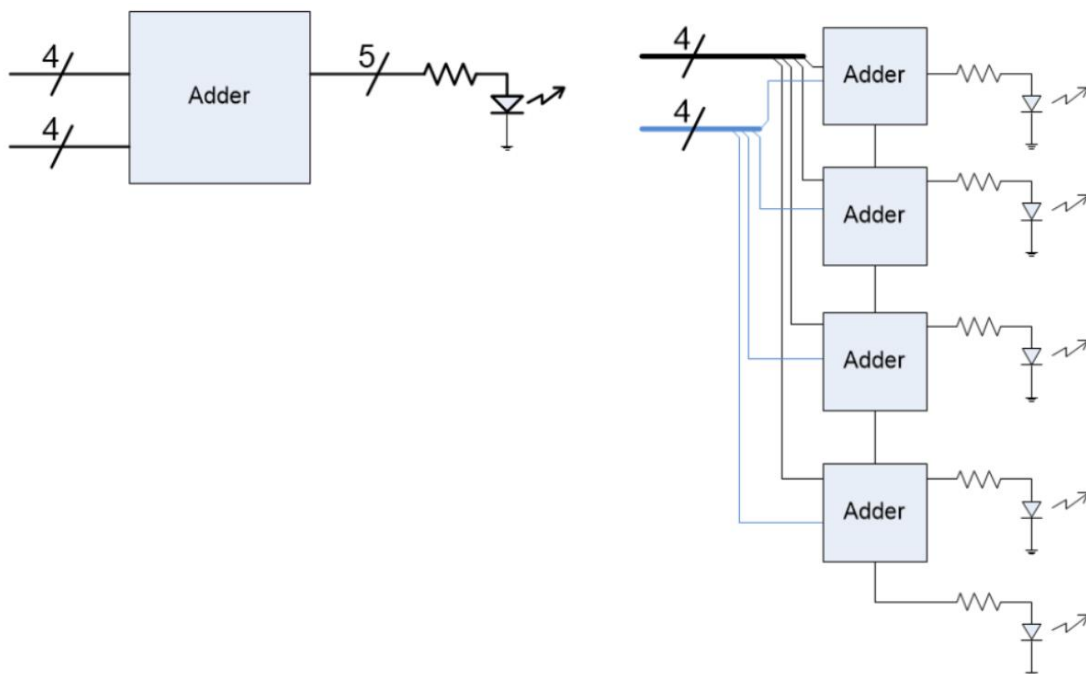

Figure 2.2: Two Block Diagram Options
Two examples of block diagrams are shown below in Figure 2.2. The diagram on the left is a high-level description of the adder, showing the entire design as a single block with two 4-bit inputs and one 5-bit output, connected to LEDs. The diagram on the right goes one level deeper, showing that the 4-bit Adder block shown on the left is made up of 4 full-adders connected together. Block diagrams with different levels of abstraction are useful in different situations, for instance, the high-level diagram on the left is better for understanding the overall design, but the diagram on the right is more useful for actually implementing the design.
Follow these steps to create a complete block diagram from Figure 2.2:
- i. Block Diagrams (like the ones shown in Figure 2.2)